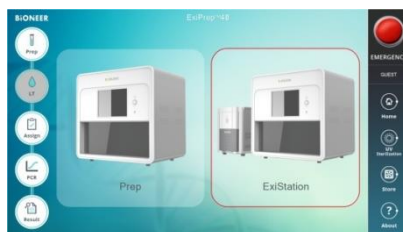

Fig. 54 Initial screen of Prep tab
- 8) Touch the Prep icon on the main screen, as shown in figure 54. Enter Prep mode for nucleic acid extraction by touching the *ExiStation*.